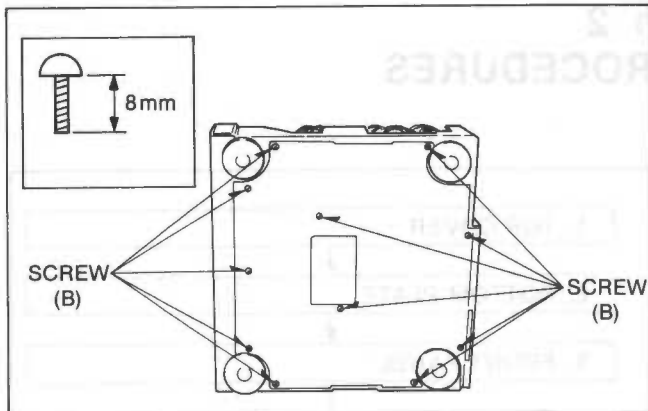

Fig. D3
- (1) Remove Bottom Plate (Refer to Fig. D3).
- (2) By slightly raising right side of unit and locating speed down Gear (A) turn gear counter clockwise slowly until the tray has fully ejected.